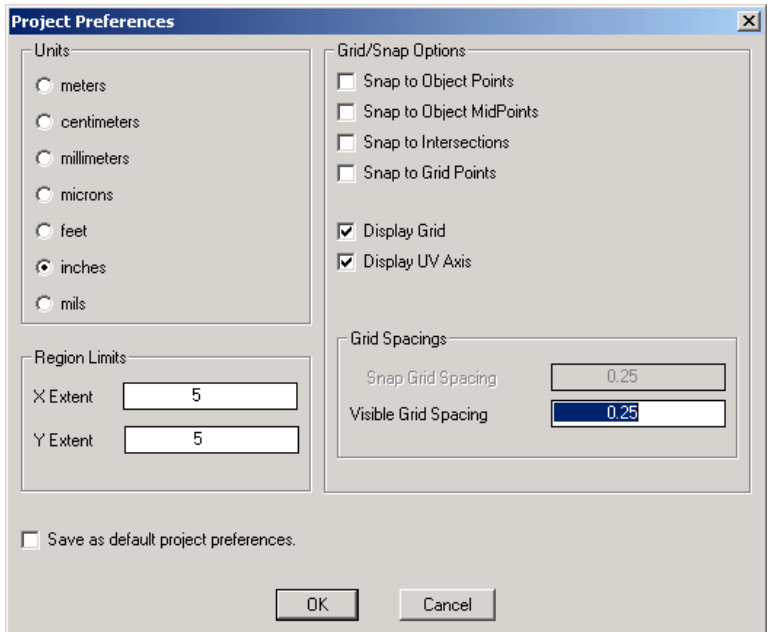

Figure 24 Horn Antenna Project Preferences
- 1 For this example, use the settings shown in Figure 24.